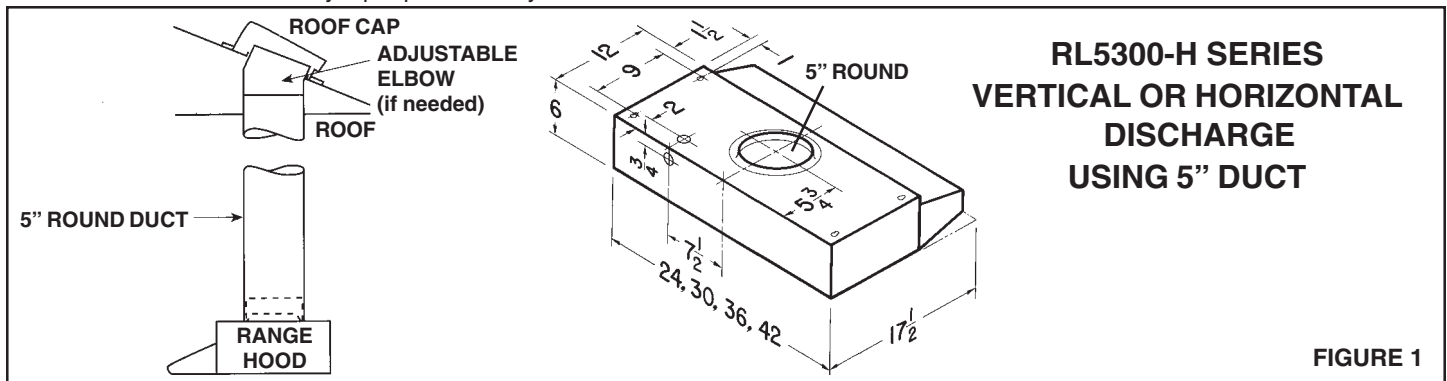

FIGURE 1
- Refer to Figure 1 for Model RL5300-H.